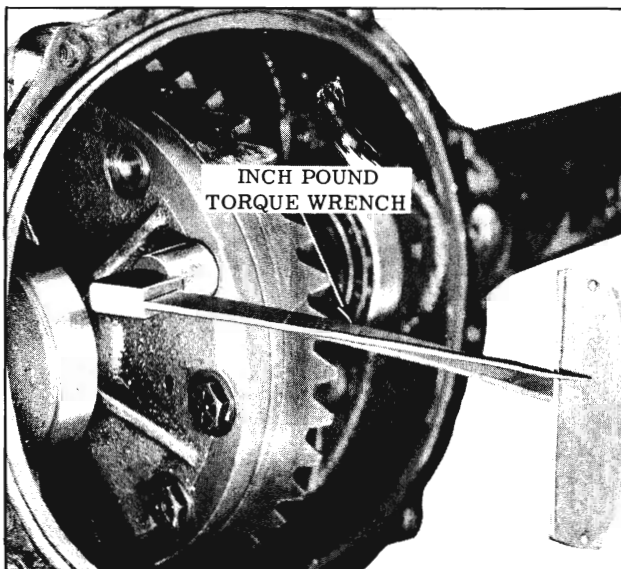

Fig. 6-110 Measuring Preload
5. With an in. lb. torque wrench on ring gear bolt, (Fig. 6-110), the reading should be 10-20 in. lbs. with original bearings or 20-30 in. lbs. with new bearings.